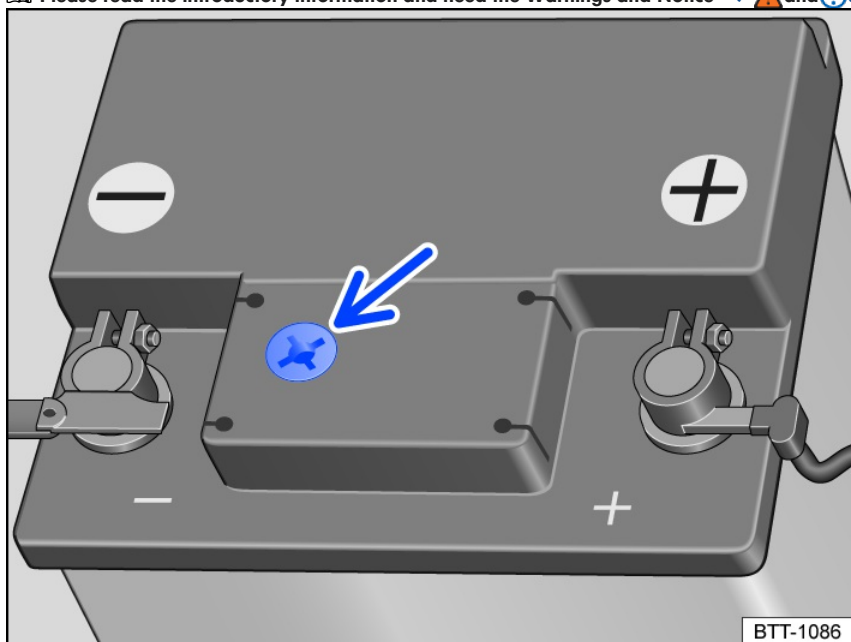

Fig. 203 Window on the top of the 12 V vehicle battery (general example).
- Make sure there is enough light to clearly see the color indicator in the circular window on the top of the 12 V vehicle battery (arrow) *fig. 203*. Never use open flames or smoldering objects to provide light.